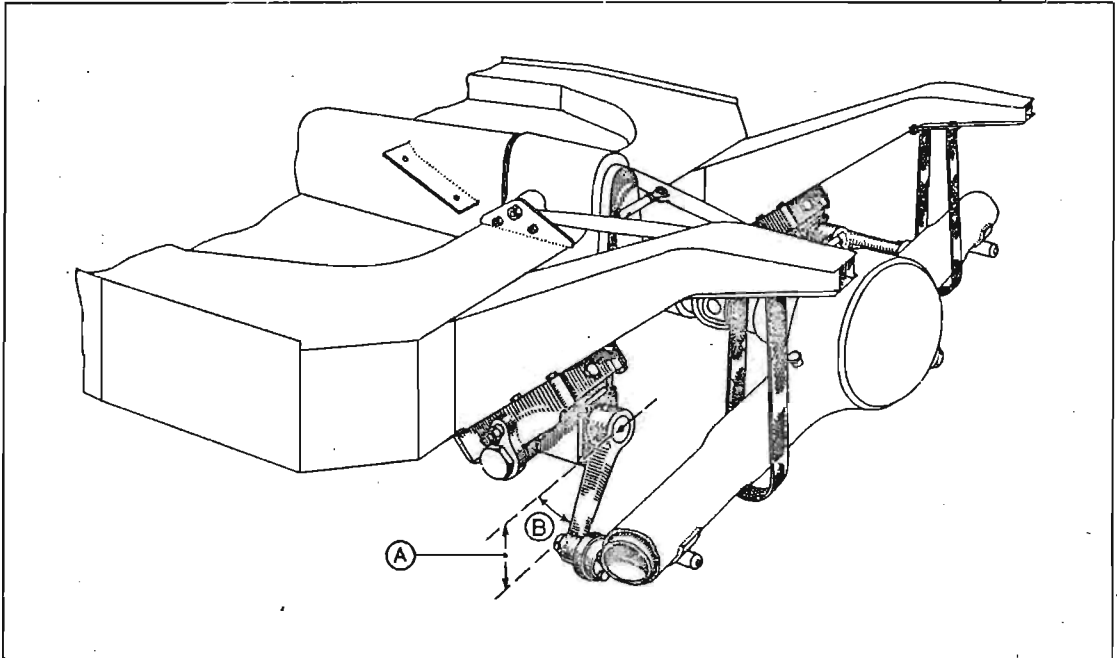

Fig. 5.
35. Check the measurements indicated on fig. 5, points A and B, which, if the setting has been correctly determined, should lie within the limits given below:-